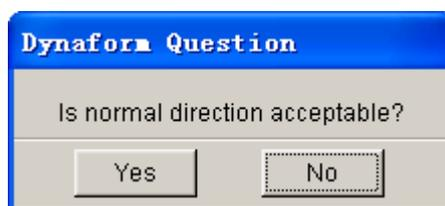
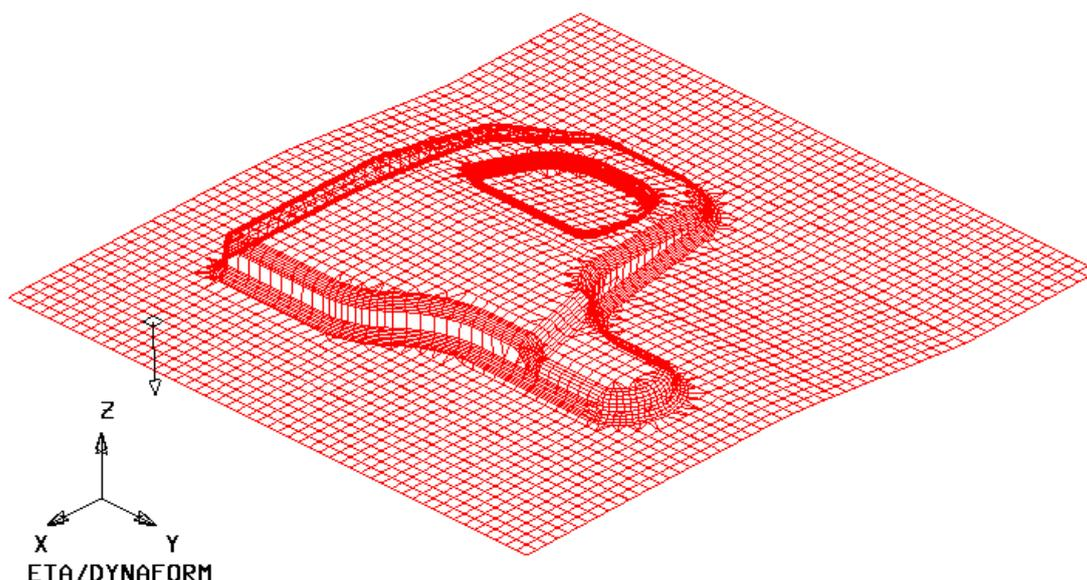

Figure 5.18 Dynaform Question dialog box
Figure 5.19 Normal direction of the selected element
- An arrow that appears on the screen shows the normal direction of the selected element. A prompt will ask “**Is normal direction acceptable?**”, See Figure 5.18 and Figure 5.19.